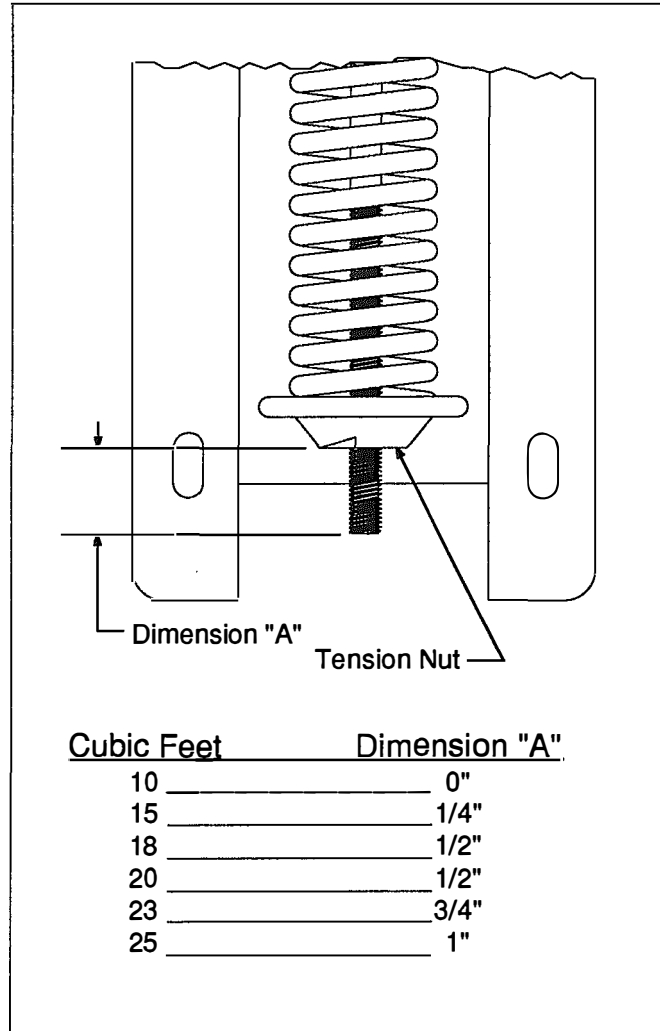

Figure B18 - Adjusting Spring Tension
Standard chest freezer hinges have adjustable spring tension. A single replacement hinge is supplied for all sizes of standard chest models, and must be adjusted prior to installation. Adjust the spring tension nut, with long nose pliers, as shown in Figure B18. An original equipment hinge must be removed from the freezer before adjusting the spring tension.
4. If necessary, adjust the hinge spring tension as shown in Figure B18.